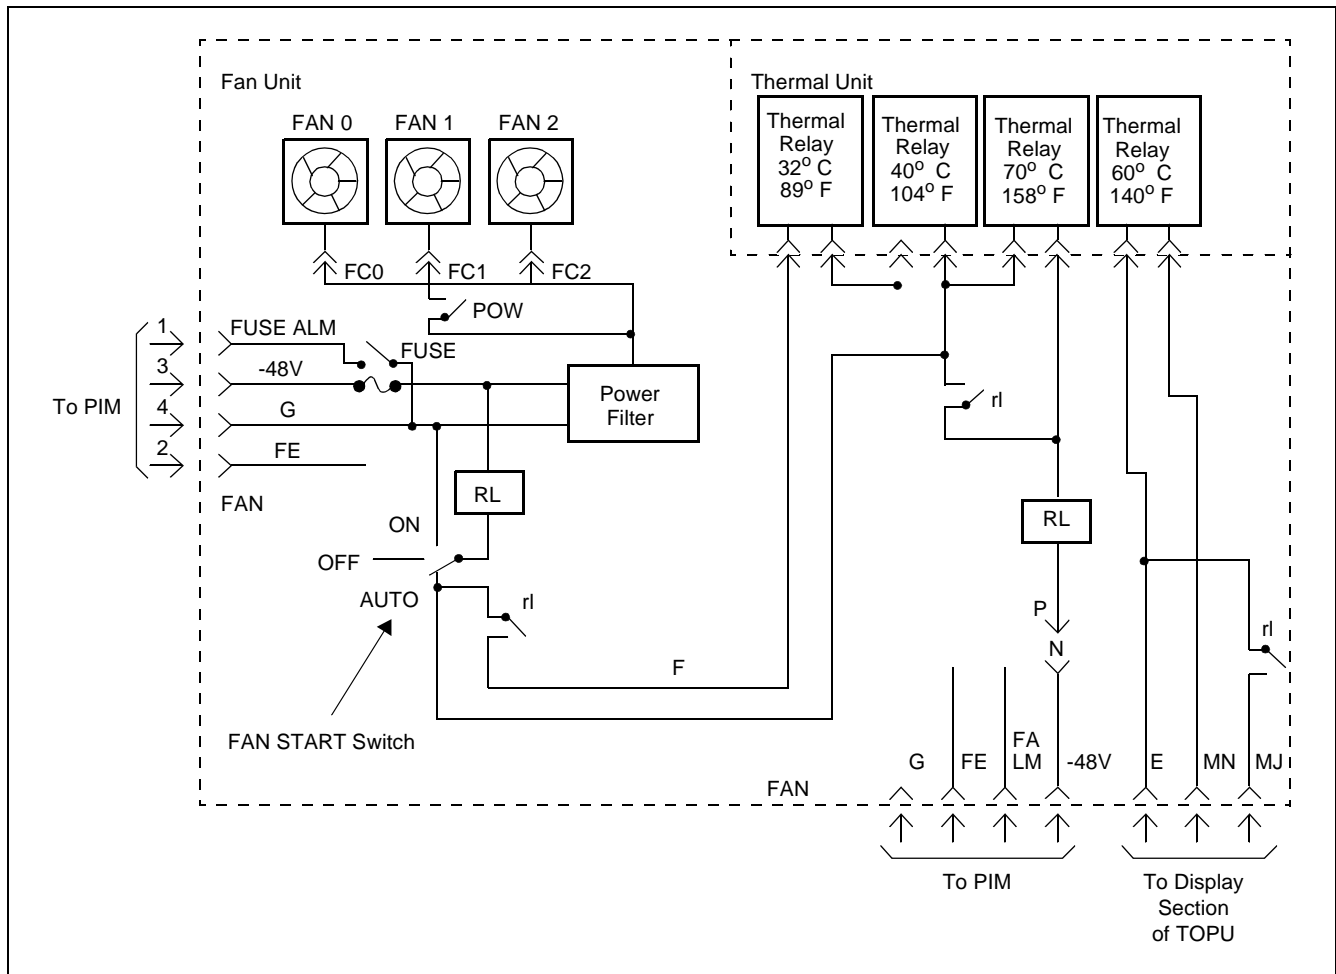

Figure 5-19 Circuit Diagram of Fan Unit and Thermal Unit
(1) When repairing a FANU fault, exercise care about the following conditions. The fans (a total of 3) are activated by operating the PWR SW key located on the PZ-M369. The conditions for starting the fan are as follows:
- With PWR SW key for the fan set to AUTO position: Starts operating if the in-frame temperature is higher than 40°C (104°F); stops operating at temperatures lower than 32°C (90°F). See Figure 5-19.
(2) When replacing the FANU with a spare, refer to Section 4., Fan Unit Replacement, in Chapter 4.